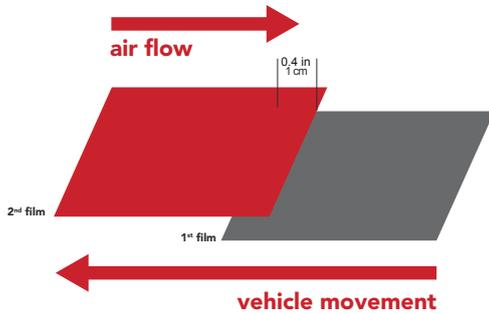

Figure 07
- Vertical overlapping on a mobile surface: application is always carried out from back to front of the vehicle; the second film will overlap the first one, etc. (FIG. 07)